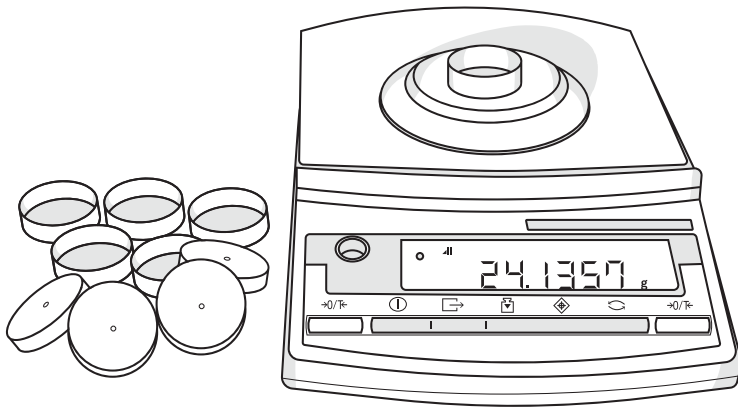

Figure 100 Document sample cup tare weight
4. Note the tare weight of the sample cups (Figure 100).